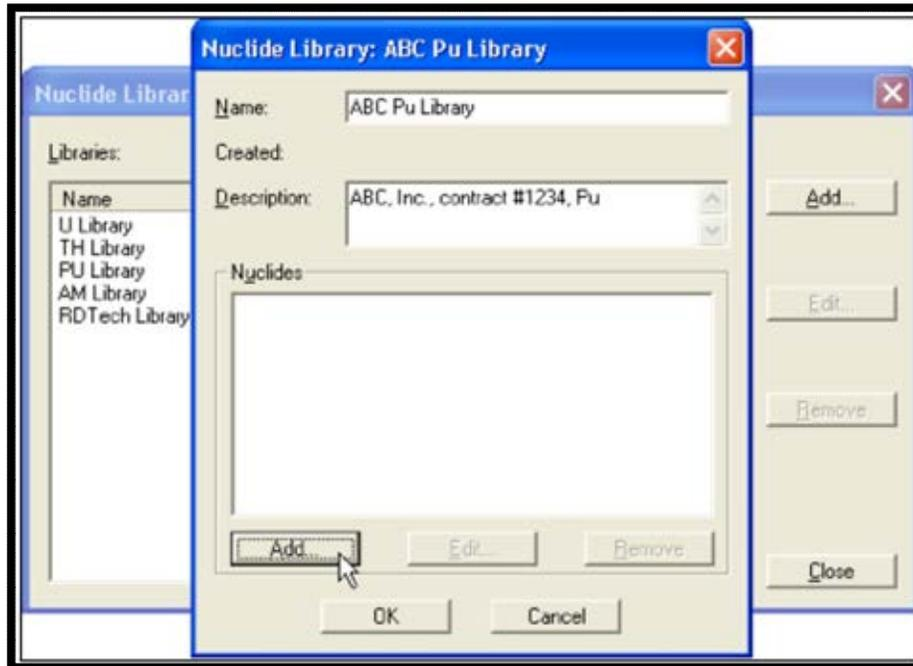

Figure 56. Enter the Name and (Optionally) a Description
- 2) Click **Add...** to open the Nuclide Library dialog. Enter a **Name** and **Description** for the new library (Figure 56). The read-only **Created** field shows the library's creation date/time, assigned by AlphaVision when the library is completed. It may be desired to enter a **Description** that further identifies the library.